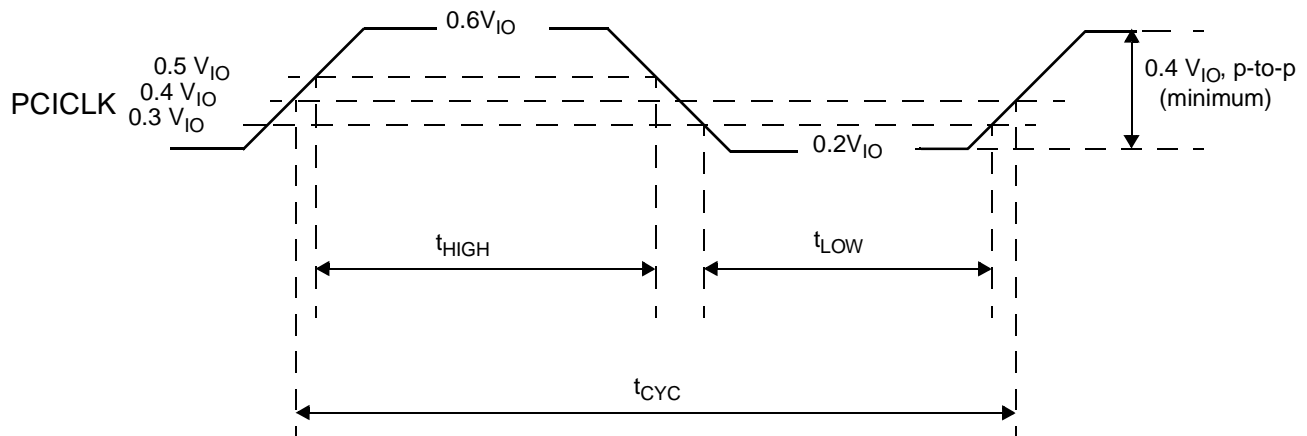

Figure 7-12 PCICLK Timing and Measurement Points
3. Slew rate must be met across the minimum peak-to-peak portion of the clock waveform (see Figure 7-12).